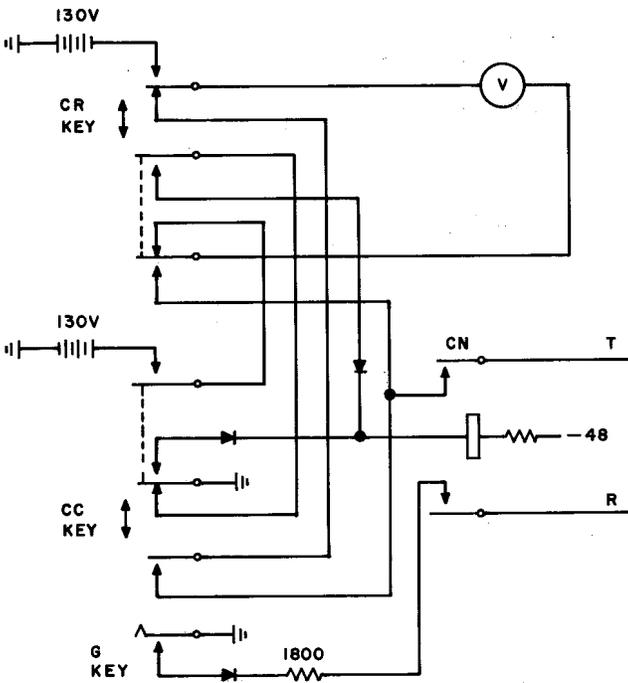

Fig. 13—CR, CC, and G Key Circuits for Testing Coin Telephone Sets Modified for Dial Tone First
**TESTING COIN TELEPHONE SETS MODIFIED FOR DFT, MULTI-SLOT (200-TYPE) AND SINGLE-SLOT (1A- AND 1C-TYPE). (SEE FIG. 13 AND 14).**
6.103 Single-slot sets and some multi-slot sets include a **ground removal relay**. This relay reduces noise by removing the unbalancing ground at the station during conversation. A modification of the LTD consists of, (a) applying + coin or - coin potential to the tip lead only, and, (b) grounding the ring lead through 1800 ohms when the G key is operated, (See Fig. 13). Test the ground removal relay as follows: